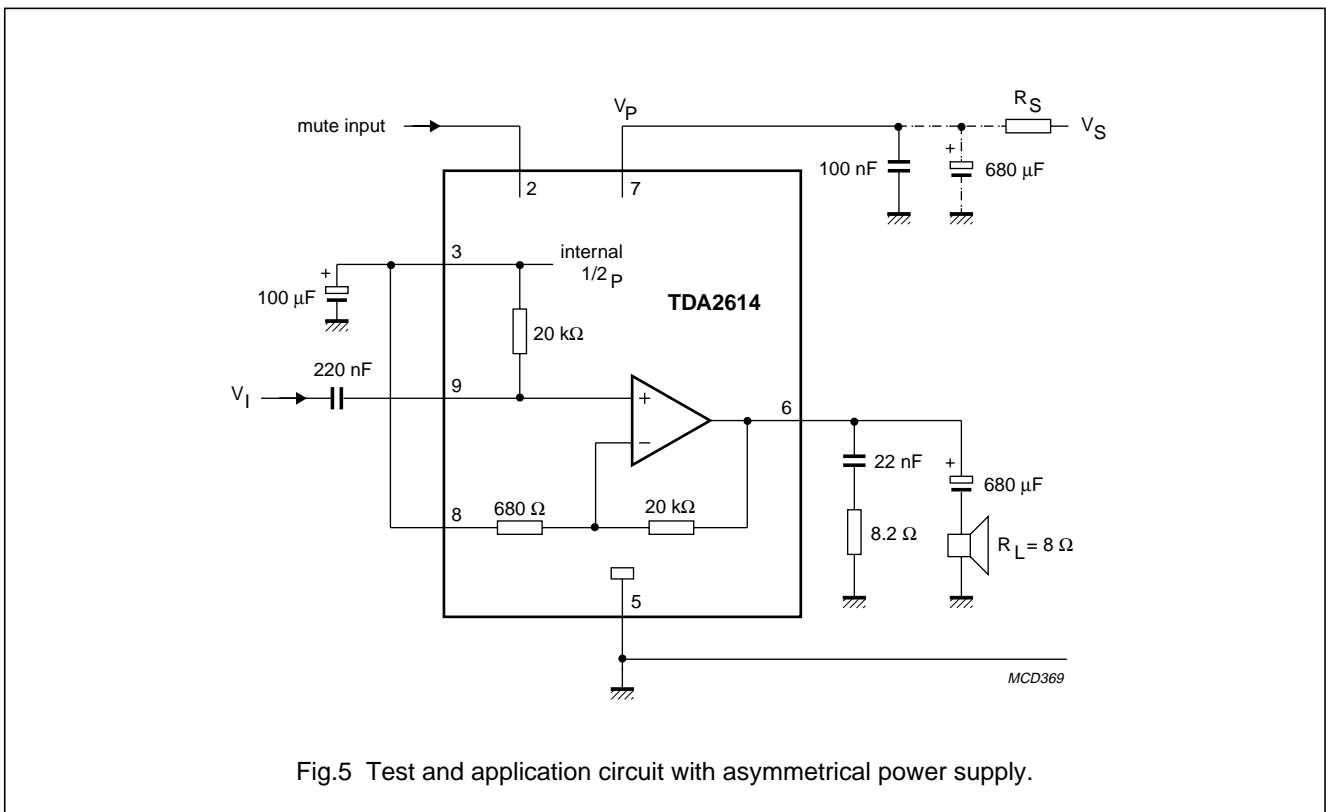

Fig.5 Test and application circuit with asymmetrical power supply.
- $V_P = 24\text{ V}$; $R_L = 8\ \Omega$; $T_{amb} = 25\ ^\circ\text{C}$; $f = 1\text{ kHz}$; asymmetrical power supply $I_{MUTE} < 30\ \mu\text{A}$. See Fig.5
- $V_P = 8\text{ V}$; $R_L = 8\ \Omega$; $T_{amb} = 25\ ^\circ\text{C}$; $f = 1\text{ kHz}$; asymmetrical power supply. See Fig.5